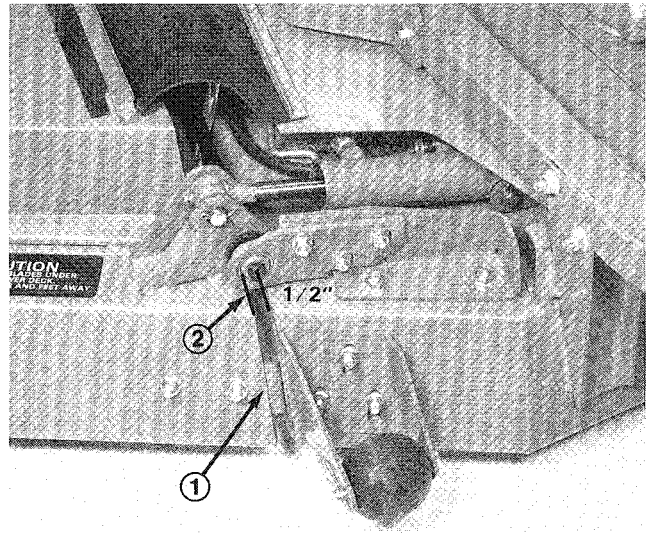

Figure 40
8. Raise or lower lower hinge bushing brackets and/or adjust front and rear stops to achieve proper blade match and height of cut. Each wing section should rest against the front and back stops (Fig. 40). A half inch (13 mm) gap between the wing section and the center section should be maintained (Fig. 40). Torque fasteners to 65 ft. lbs. (90 N·m). Readjust wing lift cylinders and retension belts after making wing adjustments. Install covers on top of cutting unit.